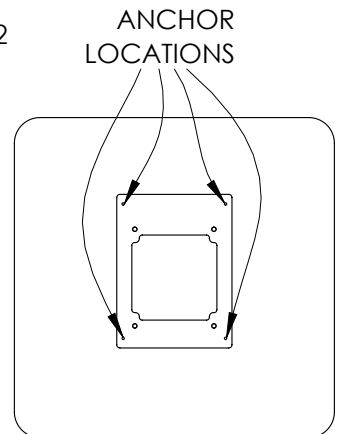

FIGURE 3
4. Align the Flush Cover plate with drywall opening, mark locations of drywall anchors (not included) and install anchors per manufacturer's instructions. (See Figure 3)